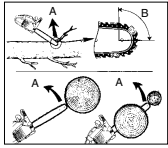

Fig. 2A
**HOU REKENING MET: DRAAITERUGSTOOT (fig. 2A)**